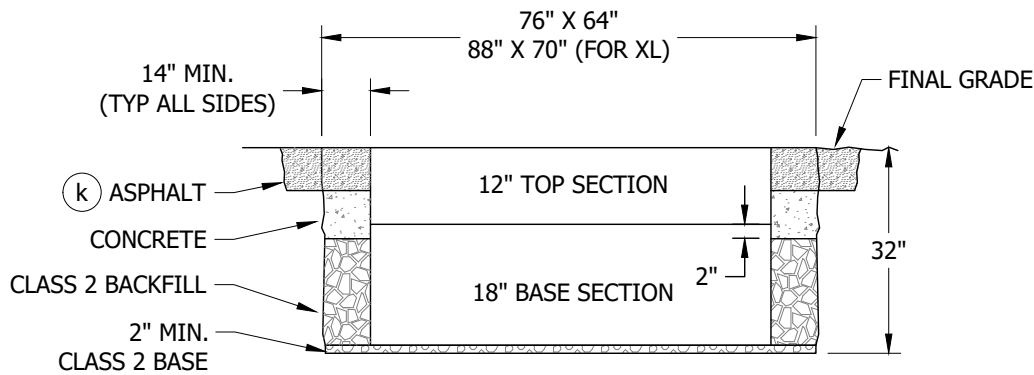

FIGURE 6
- AFTER THE LOCATION IS ESTABLISHED, MARK OUT DIMENSIONS FOR THE EXCAVATION WIDTH, LENGTH AND DEPTH PER FIGURES 6 & 7. THE WIDTH AND LENGTH DIMENSIONS GIVEN ALLOW EXTRA SPACE FOR SETTING THE SUBSTRUCTURE AND TAMPING THE BACKFILL.
- (F) IF RIGHT OF WAY OR OBSTRUCTIONS CAUSE A PROBLEM, THE HANDHOLE MAY BE TURNED TO WHERE THE LONG SIDE OF THE HANDHOLE PARALLELS THE SIDEWALK OR PROPERTY LINE. IF THE HANDHOLE HOUSES A CABLE TAP, THE HANDHOLE IS NOT TO BE TURNED AND THE TYPICAL PLAN VIEW OUTLINED IN THE STANDARD MUST BE FOLLOWED (CABLE TAP IS MOUNTED ON THE END OF HANDHOLE AND THE FIVE-FOOT CLEARANCE FOR HOT STICK OPERATION WOULD BE ON THE SIDEWALK SIDE).